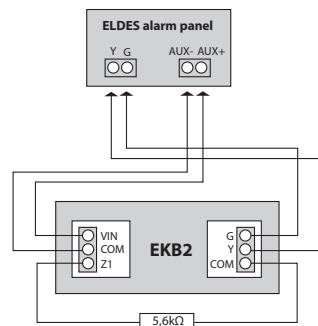

Fig. No. 6
5. Wire up keyboard terminals to ELDES alarm system respectively – **Vin** to **AUX+**, **COM** to **AUX-**, **Y** to **Y**, **G** to **G** (see Fig. No. 6).
6. Z1 and COM terminals must be connected with resistor of $5,6\text{k}\Omega$ nominal (see Fig. No. 6). As keyboard zone **Z1** is disabled by default, it can be enabled by SMS, keyboard and *ELDES Configuration Tool*. Keyboard zone **Z1** must be enabled and resistor connected even if the tamper button alone is required.